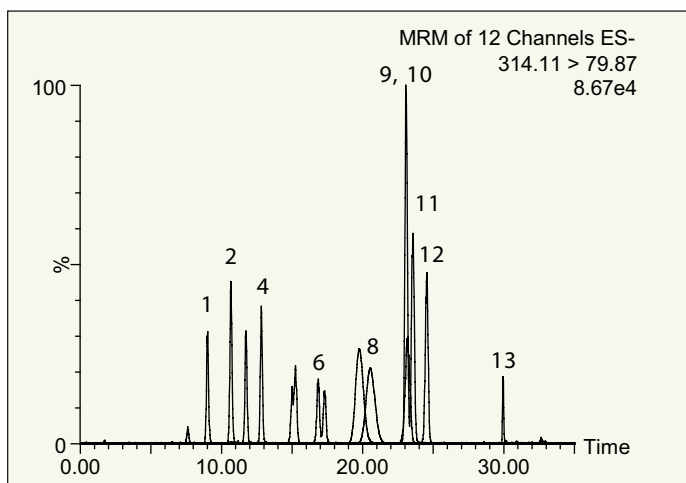

Figure 1. HPLC chromatogram for EPA Method 535 analytes.
- The HPLC tandem quadrupole MS method described in EPA method 535 has a 35 min runtime and the HPLC – Ion Trap MS method has a 60 min runtime. Figure 1 illustrates the improved chromatography with respect to runtime when the analysis is carried out by UPLC/MS/MS. The total run time was shortened to 14 min.
Figure 1 shows the chromatogram obtained using a traditional HPLC/MS/MS system and the gradient specified in the EPA 535 method. The first eluting compound is propachlor OA with a retention time of 9 min. The internal standard, butachlor ESA elutes last at 30 min. The total runtime for the HPLC method is 35 min and runtimes of up to 60 min using the ion trap MS instrument are reported in the EPA method.